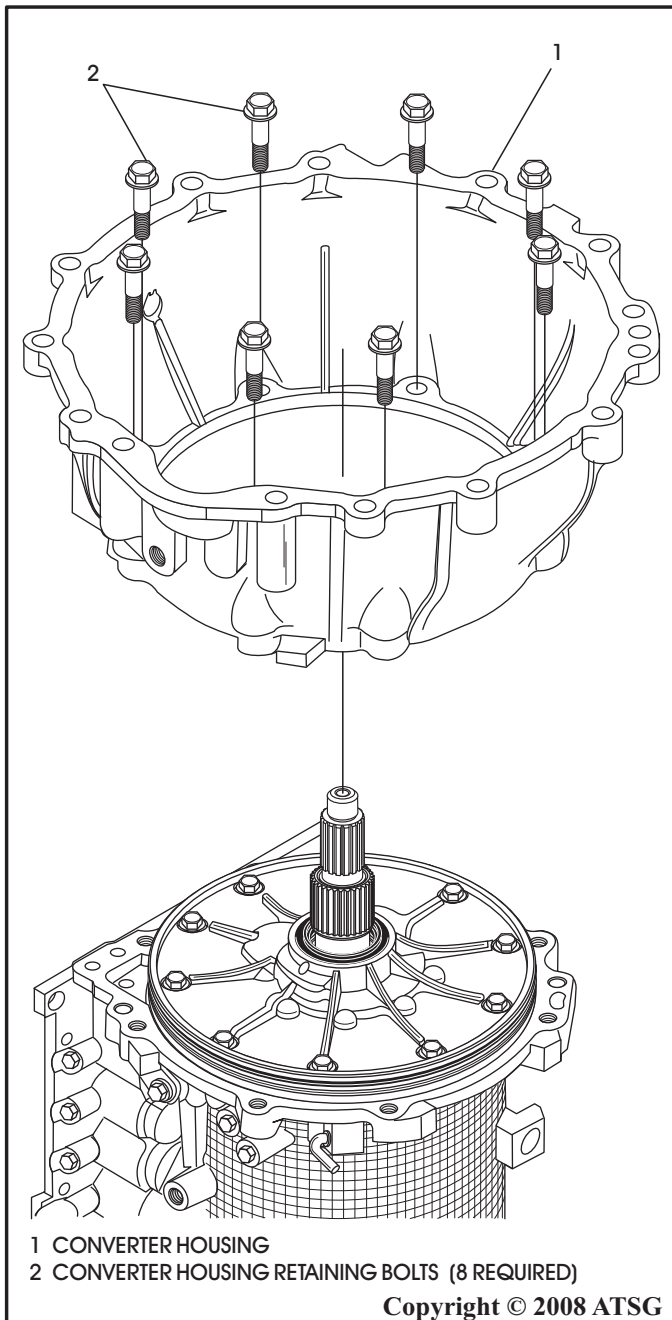

Figure 42
20. Remove the 8 converter housing retaining bolts and remove converter housing, as shown in Figure 42.